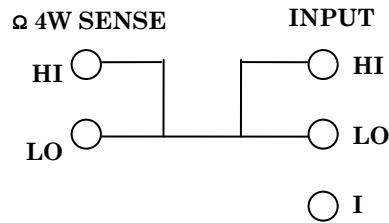

Figure 1. 4-wire short.
- (1) Press **FUNCTION DC V** key.
- (2) Press **Shift** key then **RANGE/DIGITS Auto/Man** key to select 6½ digits resolution.
- (3) Short TI front and rear input terminals as shown in figure 1 using copper wire and allow 5 minutes for thermal offset voltage settling after handling input connections.